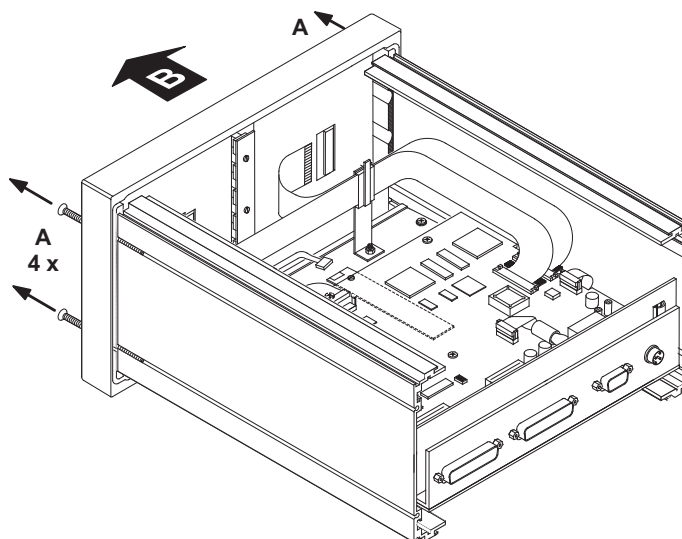

Fig. E 8-4: Removing and upending the front panel
3. Remove with a suitable screw driver the Philips screws from the front side of the unit (See Fig. E 8-4, A).
4. Upend the front panel on the work bench (see Fig. E 8-4, B, on the previous page).